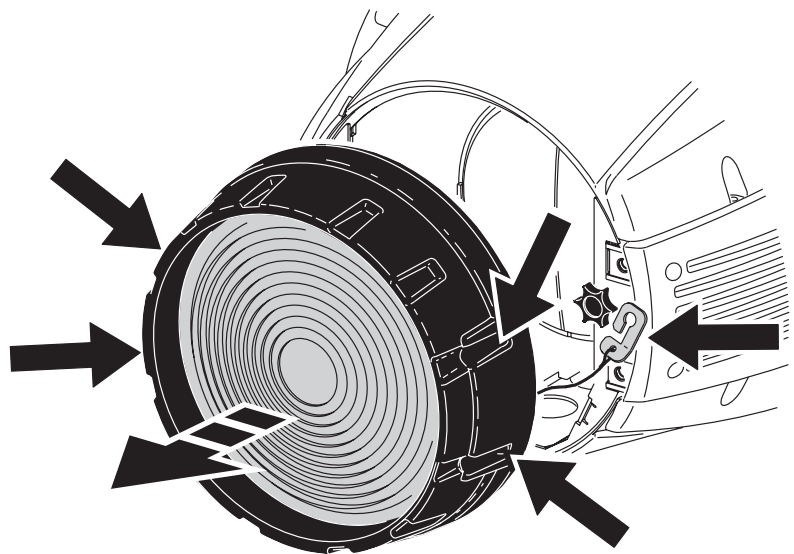

Figure 2
4. See Figure 2. Remove the four flathead quarter-turn screws from the front lens assembly, release the front lens safety attachment and remove the front lens assembly. Store it for possible re-use if the fixture is to be returned to standard MAC 2000 Wash XB configuration at a later time.